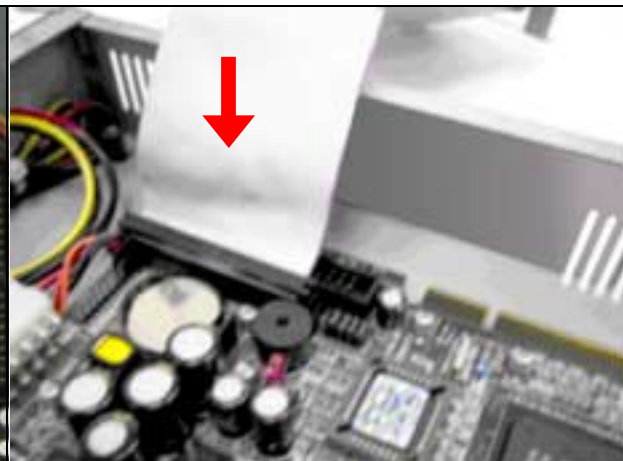

Fig. 2-22 Connect IDE cable to PPAP-1610
3. Connect IDE cable to PPAP-1610 (**Fig. 2-22**).